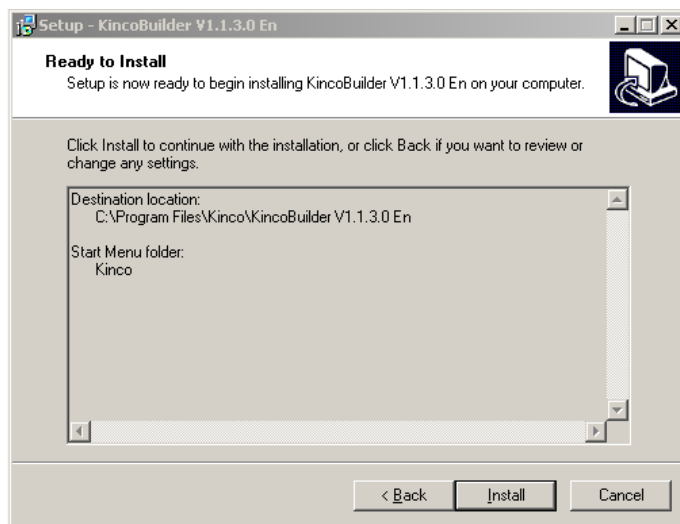

Figure 3-5
- ⑤ Click *Next*, the wizard will prompt Ready to Install, as shown in Figure 3-5: